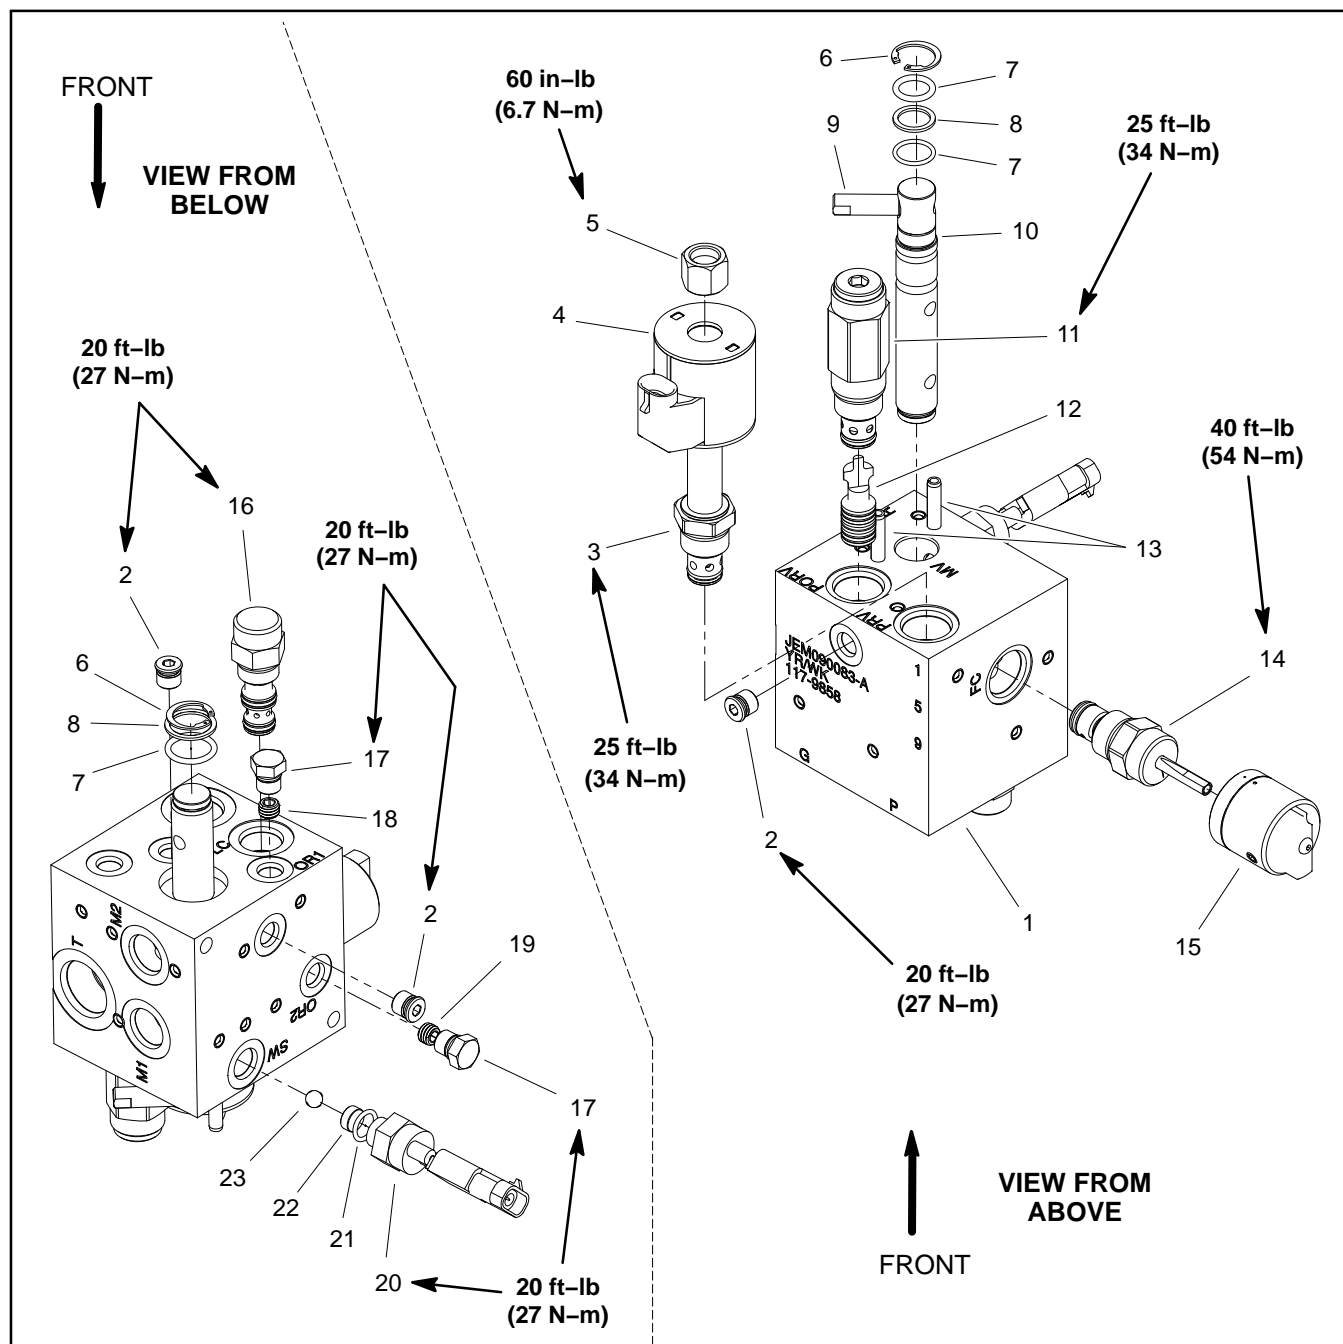

Figure 65
NOTE: The hydraulic manifold shown in Figure 65 uses several zero leak plugs. These plugs have a tapered sealing surface on the plug head that is designed to resist vibration induced plug loosening. The zero leak plugs also have an O-ring to provide a secondary seal. If zero leak plug removal is necessary, lightly rap the plug head using a punch and hammer before using an allen wrench to remove the plug; the impact will allow plug removal with less chance of damage to the socket head of the plug. When installing plugs into the manifold, torque plugs to the values identified in Figure 65.
For cartridge valve service procedures, see Control Manifold Cartridge Valve Service in this section. Refer to Figure 65 for mow manifold cartridge valve and plug installation torque.
- A. Remove backlap switch from manifold before removing mow/backlap spool (Fig. 65). Remove shim and ball from manifold port after switch is removed. Remove and discard O-ring from switch.